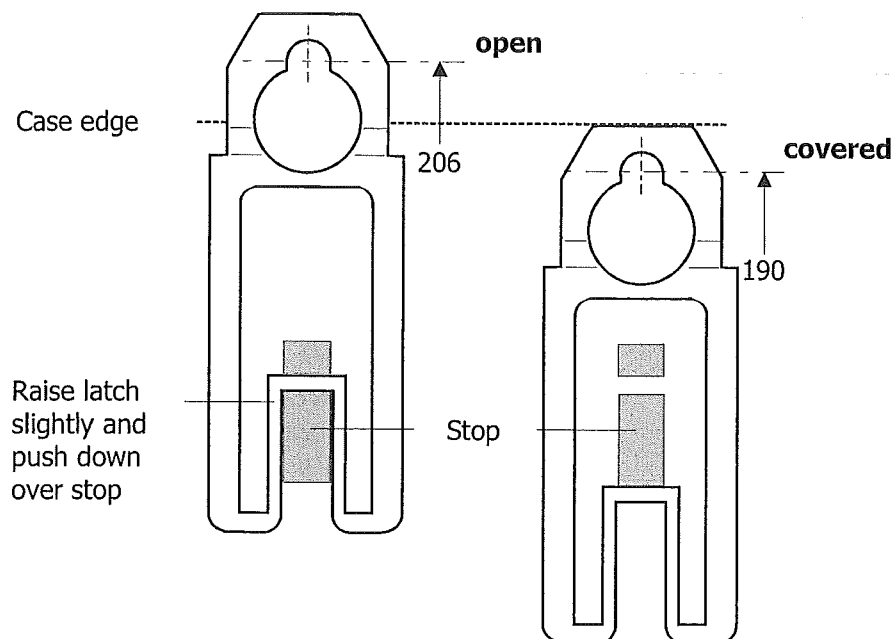

Fig. 4.6 Meter suspension eyelet
3. Set the meter suspension eyelet in the relevant position. This can be moved up or down over the stop as illustrated in Fig. 4.6.